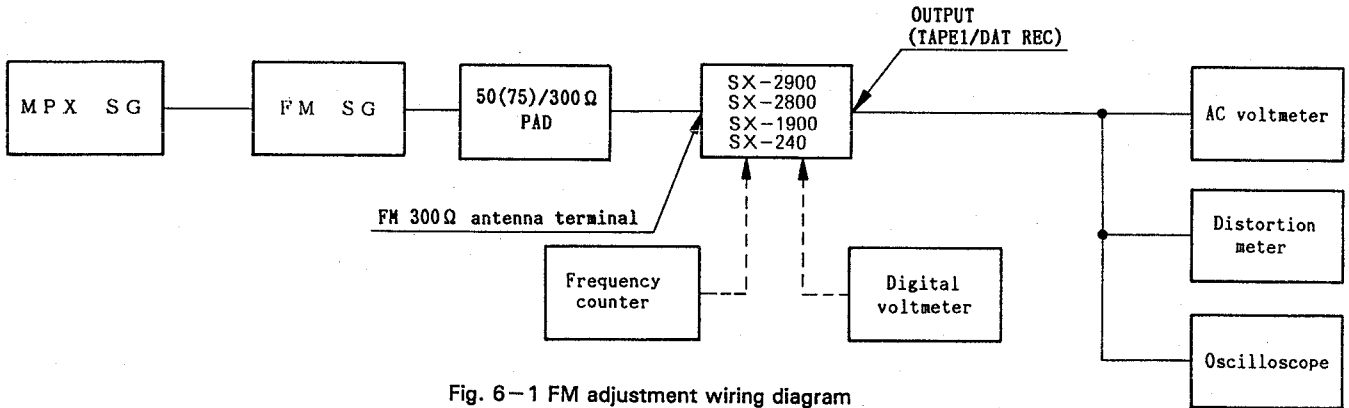

Fig. 6-1 FM adjustment wiring diagram
- For connections and points to be adjusted, refer to Fig. 6-1 and 6-3.